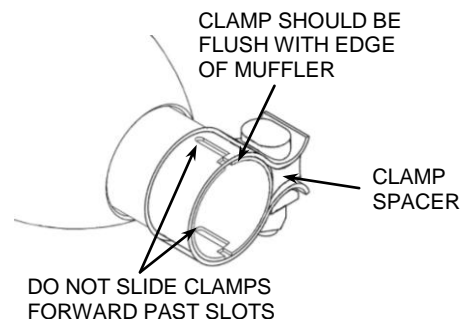

FIGURE 2
6. Check all clearances and alignments then tighten the clamps. (NOTE: The muffler clamps should be flush with the end of the muffler when tightened. See **Figure 2**. If the muffler clamps are slid forward past the slots on the slip collar the clamps will not tighten the mufflers properly. Also, make sure the clamp spacer is not over the slots. The slots need to be covered by the clamp band so that it seals the slots properly. Rotate the clamp if necessary).